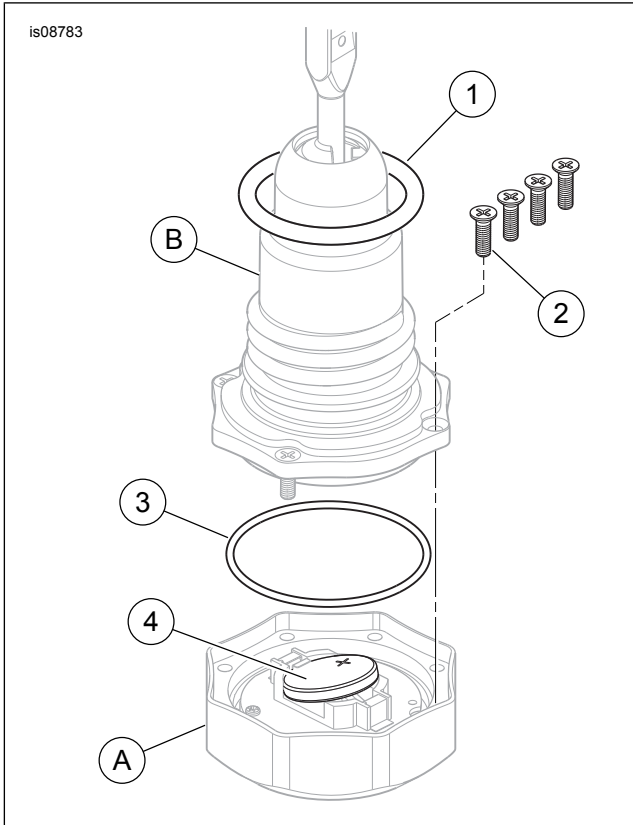

Figure 3. Dipstick Service Kit
See Figure 3. Be careful when separating the upper display body (A) and lower dipstick assembly (B).
1. Remove the four small Phillips head screws (2) on the underside of the display body.
- Certain models require purchase of a Dipstick Service Kit (Part No. 91800066), available from a Harley-Davidson dealer. This Kit includes O-rings, screws **and** a replacement CR 2032 battery (see Figure 3 and Table 1 ).
See Figure 3. Mark the upper display body (A) and lower (B) dipstick components before disassembly, so they can be assembled in the same rotational alignment. Be careful when separating the two components.
3. Note the battery orientation. Using a mechanic pick or a small screwdriver, carefully insert the tool under the battery (4). Gently pry the battery free and discard it. Insert the new battery as shown. Push the battery down until seated.